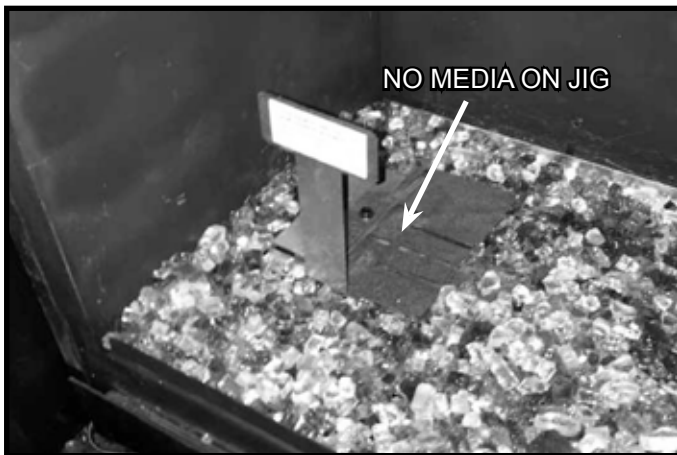

Figure 2. Media Placement Jig in Place
4. Place an even layer of media around the media tray as shown in Figure 2. **DO NOT place media on media placement jig.**